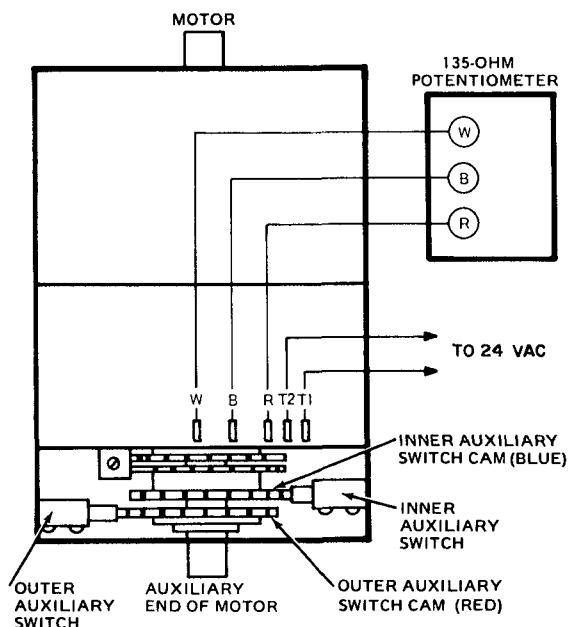

**Fig. 28 — Auxiliary Switch Stroke Adjustment**
2. Disconnect controller from motor. Connect red, white, and blue terminals on the 135 ohm manual potentiometer to corresponding red, white and blue terminals on the motor. Connect 24-vac power to Terminals 1 and 2. See Fig. 28.